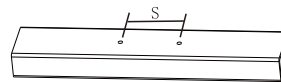

Figure 2
2. Drill two holes of distance "S" on the mounting bar. (Figure 2)